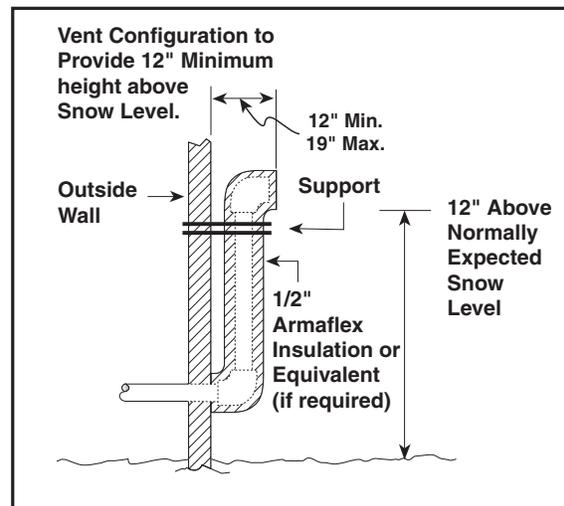

Figure 20. Alternate Horizontal Vent Installation
1. The termination must be 12 inches above snow level or grade level whichever is higher. See Figure 20 for alternate method to achieve 12" above snow level.
When the vent pipe must exit an exterior wall close to the grade or expected snow level, a riser should be provided as shown in Figure 20.